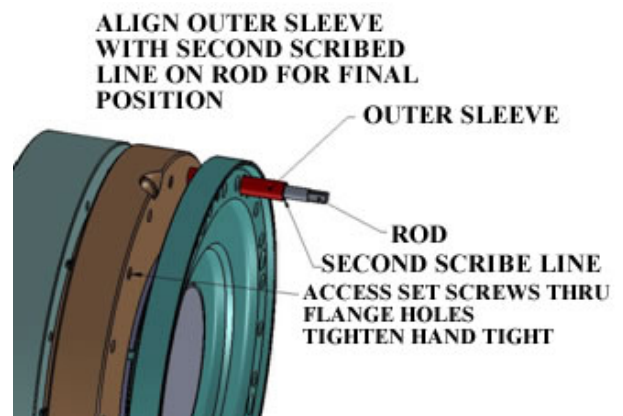

Figure 5b - Setting Final Position
2.4.9 Apply more hydraulic pressure. The HTC halves will separate causing the outer sleeve of the tool to move towards the second scribe line on the rod. When the outer sleeve is aligned with the second scribe line as shown in figure 5b, stop the hydraulic pump while holding pressure. This is the final position of the clamp. Hold hydraulic pressure here for the next step.
2.4.10 Tighten the eight retention screws (socket head set screws) hand tight with a hex wrench. The screws are accessed through the flange face as shown in Figure 5b.
5.3 Connect the hydraulic pump and slowly apply pressure while attempting to loosen one of the retention set screws. The retention set screws are accessed thru the face of the flange as shown in Figure 5b. As soon as the screw is free to rotate stop the pump.